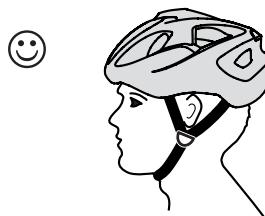

Fig. 1a
- The helmet must always be levelly horizontal on your head.(Fig. 1a)